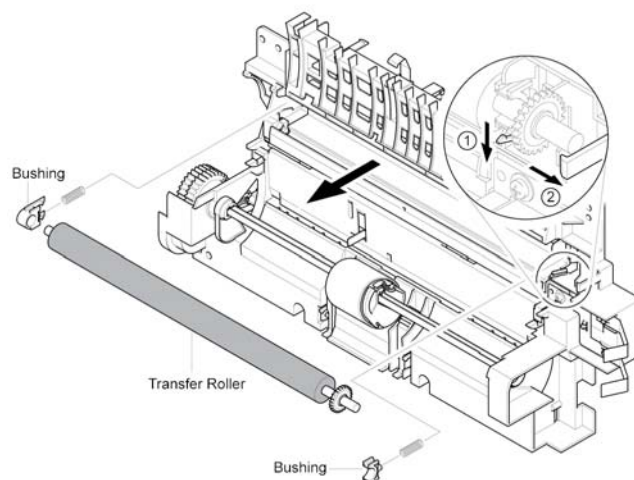

Figure 2
6. Remove the transfer roller from the frame, Figure 2.